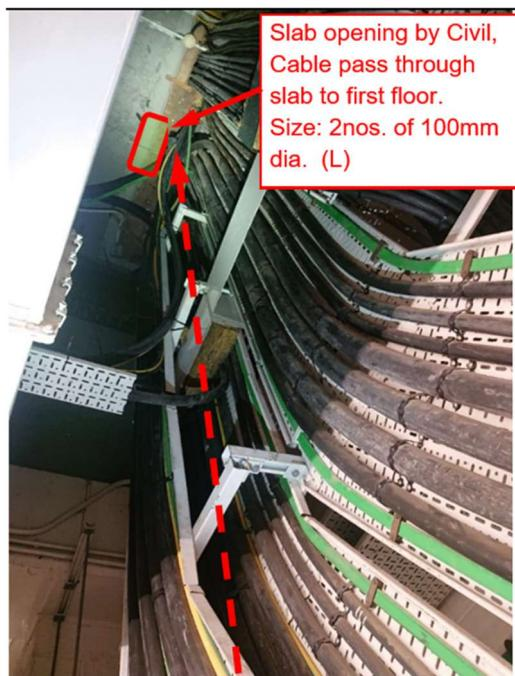

Figure 1 – Slab opening at LV switch room's ceiling soffit
- o Before any commencement of work, protection works shall be done. Generally, tarpaulin will be used to cover the nearby E&M services. (Refer to Fig. 1) For UG/F above the LV switch room, Protective board will be erected to avoid damages as the coring location is close to the existing cables.